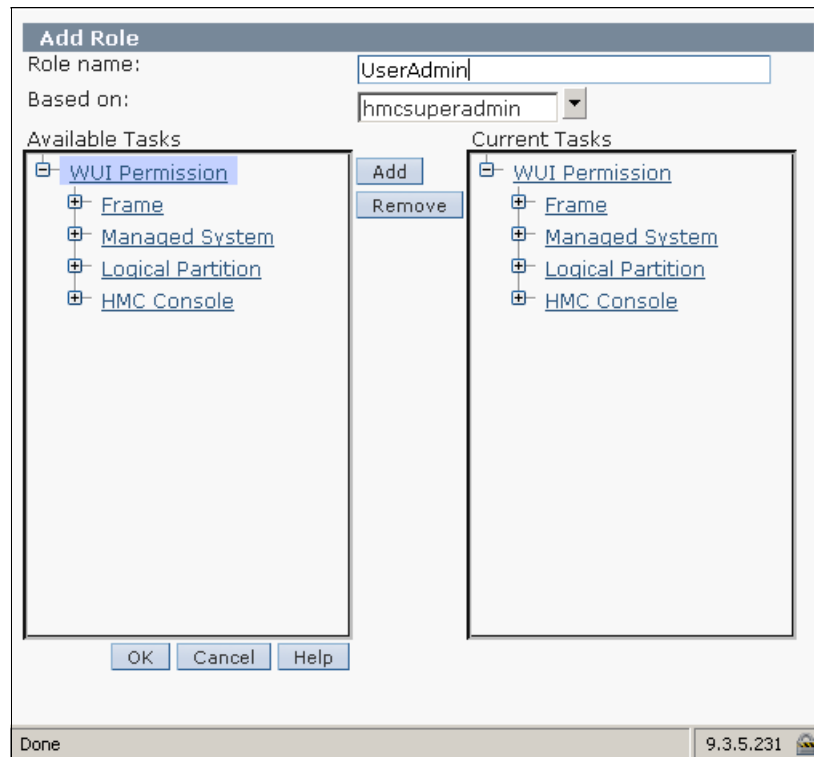

Figure 5-21 Add user role
- Click **OK** to create a new task role. Figure 5-21 shows an example of creating a new task role.